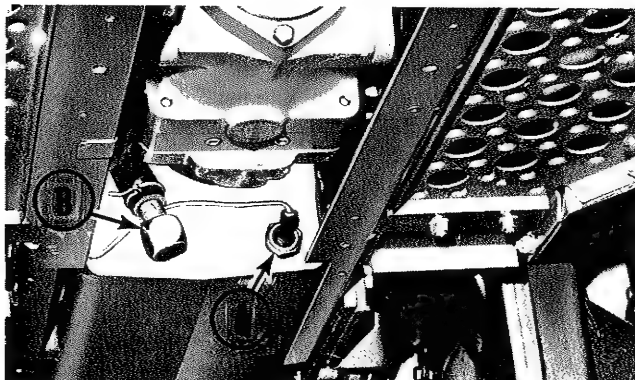

Figure 35. Front of transmission as seen from beneath the tractor with dust shield removed.
See figure 35. **DO NOT RUN THE ENGINE WITHOUT OIL IN THE TRANSMISSION.** The transmission case is divided into two compartments. Both the oil temperature sending unit (A) and the pipe fitting (B) on the front of the transmission must be removed to drain the transmission completely. Warm oil will drain best. The tractor should be operated at least 1/2 hour to warm the oil before draining the transmission. Proceed as follows:
2. Remove the wire from the oil temperature sending unit (A).
4. Remove the spring clamp and hose from the pipe fitting (B).